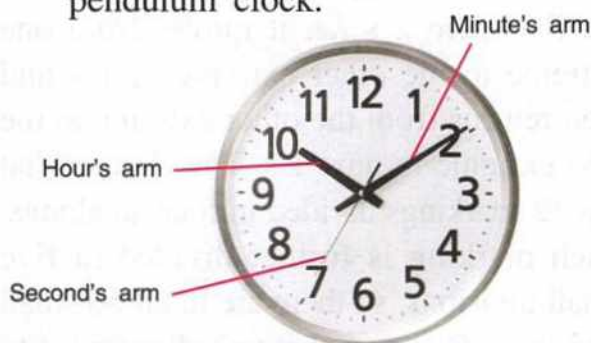

Fig. 2.13 Watch
2. **A watch :** Fig. 2.13 shows a watch. A watch makes use of the gear wheels. These wheels set up the speed of rotation of the second's, minute's and hour's arms. The second's arm is driven by a wound up spring. The dial of a watch is graduated similarly as that of the pendulum clock.